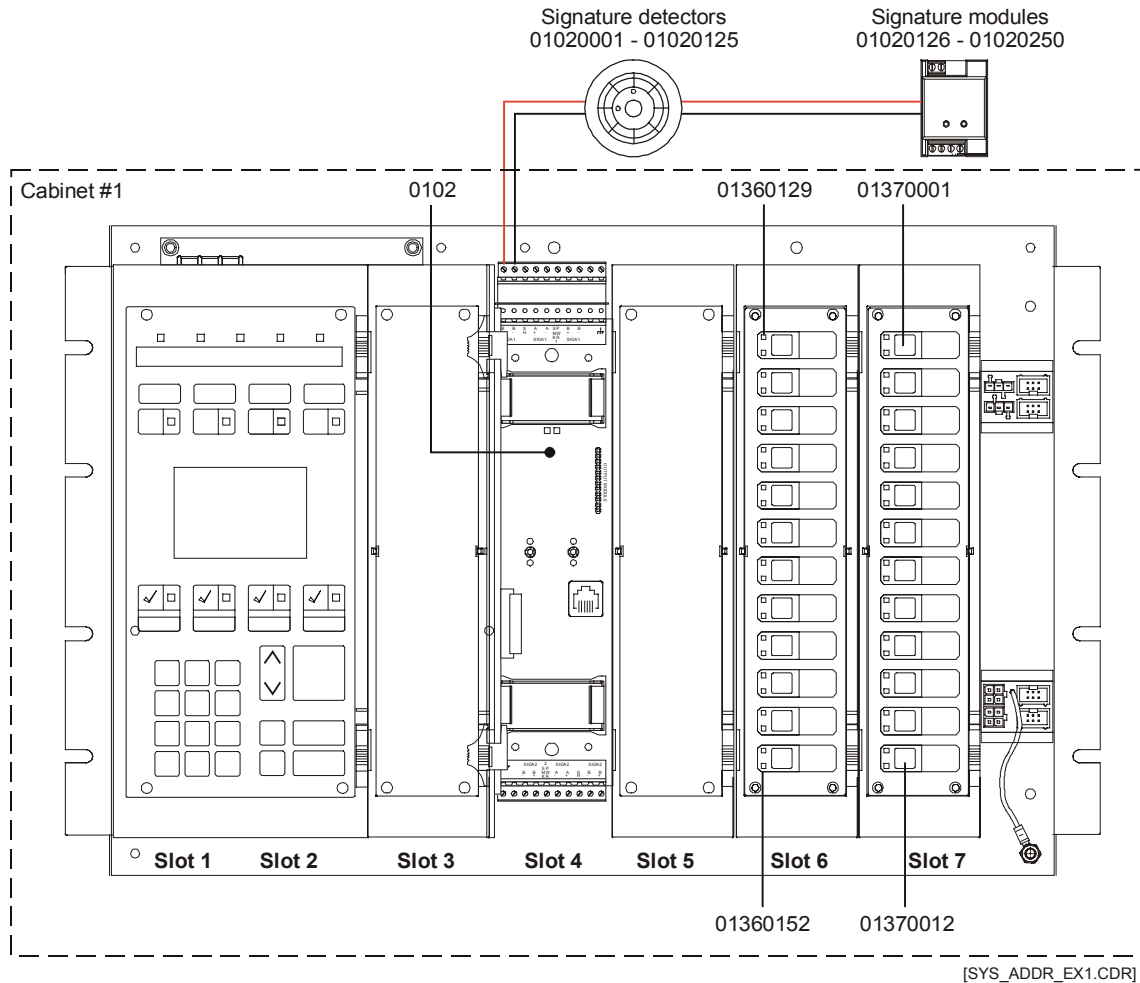

Figure A-1: Addressing example
- Figure A-1: Addressing example • A.2
The system derives the addresses it assigns from the panel's cabinet number and the LRM's location within the panel (see Figure A-1). The basic address format is PPCCDDDD, where: